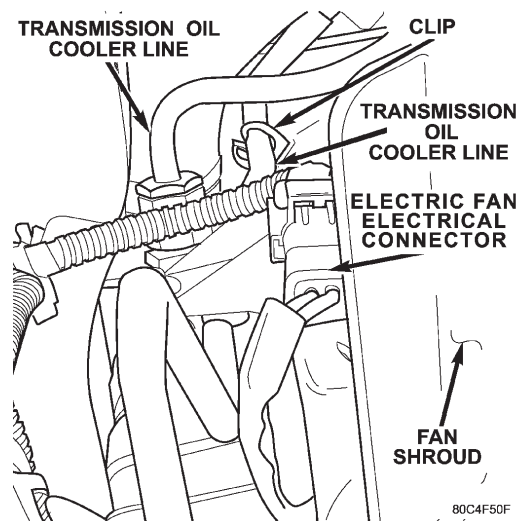

Fig. 41A Transmission Oil Cooler Line Retaining Clip and Electric Fan Electrical Connector
(2) Gently lay fan into shroud.
(3) Disconnect the electrical connector for the electric fan, then disconnect connector from shroud (Fig. 41A).
(4) Disconnect transmission cooler line from retaining clip on fan shroud (Fig. 41A).
- (1) Carefully position the viscous fan into the shroud, then position the shroud and fan into the vehicle.
- (2) Install radiator mounting bolts.
- (3) Reconnect transmission oil cooler line to retaining clip (Fig. 41A).
- (4) Install radiator core support.